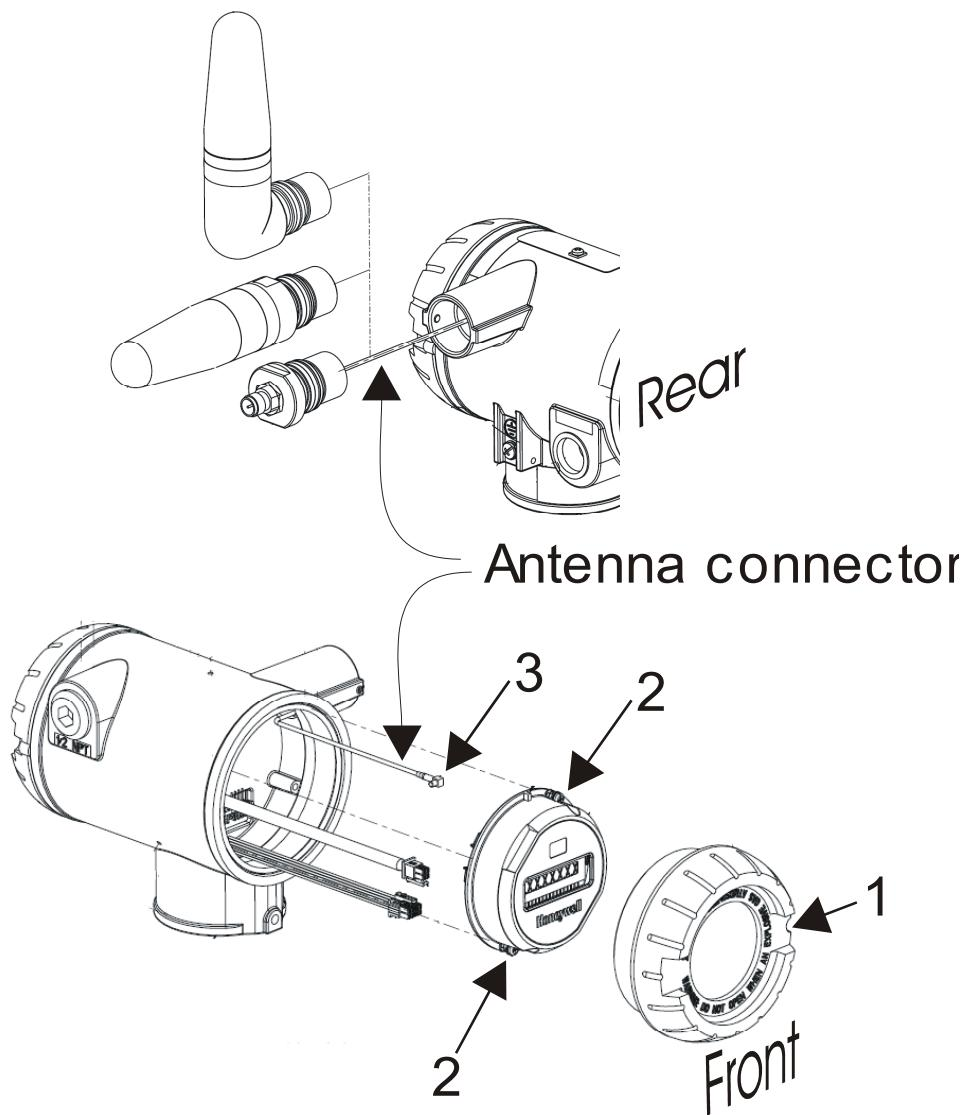

Figure 11 Antenna replacement
2	Loosen the M3 locking set screw on the display end-cap. See item 1 in Figure 11. Unscrew and remove the front end cap.
3	Loosen the two screws on the sensor module. See items 2 in Figure 11.
4	Remove the sensor module from the transmitter body and disconnect the antenna connector from CN2 connector on the sensor module. See item 3 in Figure 11.
5	Loosen the locking set screw at the antenna base. Unscrew the antenna from the transmitter. Remove the antenna and its connector from the transmitter. See Figure 11.
7	Attach antenna connector to CN2 connector on sensor module. See item 3 in Figure 11.
8	Insert sensor module. Orient in the proper viewing orientation before tightening two sensor compartment screws. See items 2 in Figure 11. Torque screws to 0,4 – 0,6 N·M (3,5 – 5,3 Lb-in).